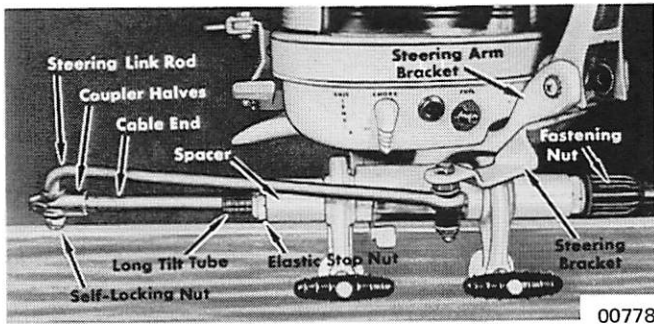

Figure 2. Attaching Kit Installed
2. Replace hollow tilt tube with new, longer tilt tube from kit. (Figure 2)
3. Place spacers from kit on tilt tube and secure with elastic stop nuts from engine. (Figure 2)
5. Place steering bracket from kit into position on steering arm bracket. (Figure 2) Steering handle assembly need not be removed.